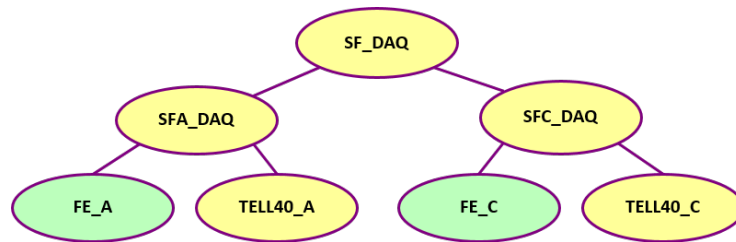

Figure 1: SciFi DAQ layout
The SciFi Front-End-Electronics (FE) sub-system is part of the SciFi DAQ system. It is interconnected to the SciFi back-end system (BE, aka TELL40). The DAQ system is split into two geographical partitions: DAQ_A and DAQ_C, hence sub-divided into FE_A and FE_C as shown in figure 1. The FE is mounted on the frame and connected by flex cables to the silicon photo multiplier's (SiPM). This basic unit, known as Read Out Box (ROB), is the connecting point between detector and outside world and consists of two ½ROBs.